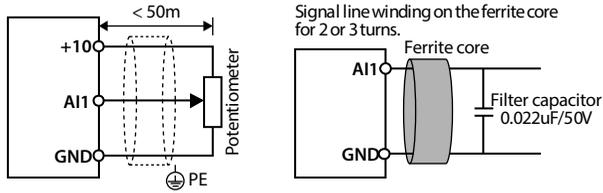
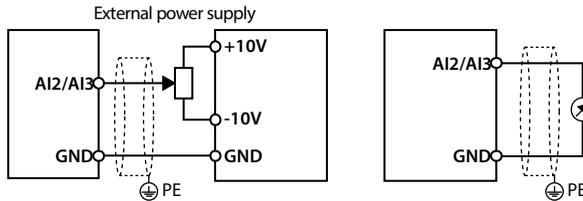

Figure 4-11 AI1 connection
Figure 4-12 AI2/AI3 connection
The AI1 is voltage input and the range is 0 - 10V, as shown in Figure 4-11.
2. In serious interference occasions, the analogue input signal should add filter capacitor and ferrite core, as shown in Figure 4-11.
AI2/AI3 are selected as voltage input and the range is -10 - +10V. When selecting internal +10V of HD3L, refer to Figure 4-11; Selecting +/-10V external supply, refer to Figure 4-12.
AI2/AI3 are selected as current input and the range is 0 - 20mA, refer to Figure 4-12.